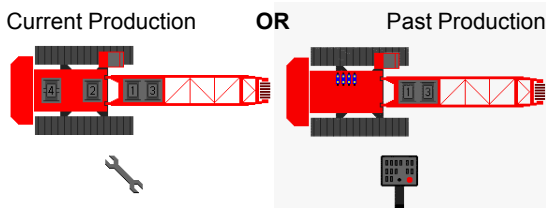

FIGURE 3-28
2. Scroll to and enter the setup screen (Figure 3-28).